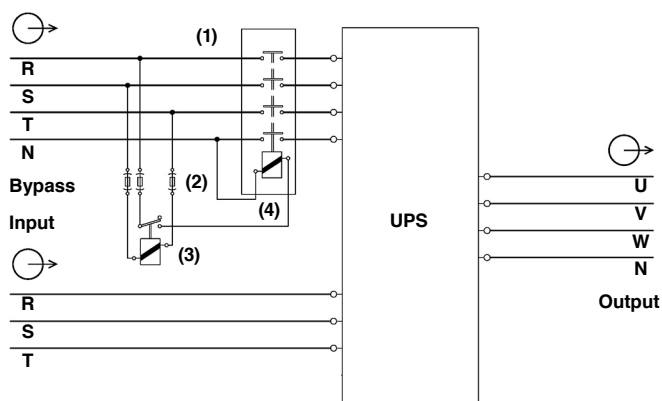

Fig. 16. Backfeed protection connection in installations with separate bypass line (X-TRA) and power  $\leq 300\ kVA$ .
- X-TRA** equipments (separate bypass line) and power  $\leq 300$  kVA, in accordance with safety standard EN-IEC 62040-1, installation has to be provided with a «Backfeed protection» system, as for example a contactor, which will prevent the appearance of voltage or dangerous energy in the bypass line during a mains fault (see figure 16). For powers  $>300$  kVA the UPS has the "Backfeed protection" as standard.